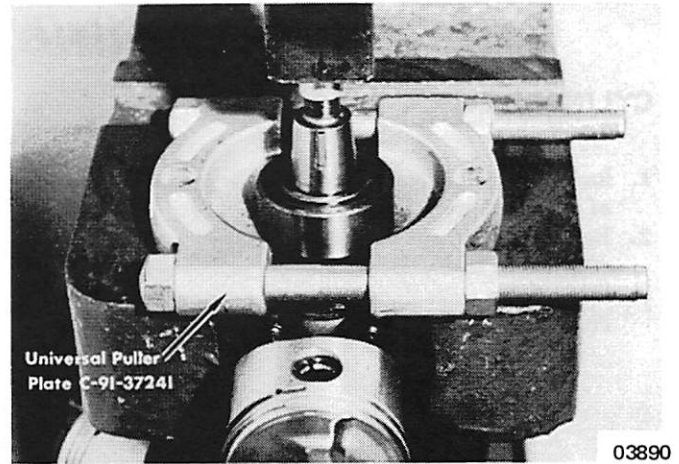

Figure 6. Removing Ball Bearing with Universal Puller Plate
11. Check end bearings for roughness and damage. Remove only if necessary. Remove end bearing with Universal Puller Plate (C-91-37241). (Figure 6)